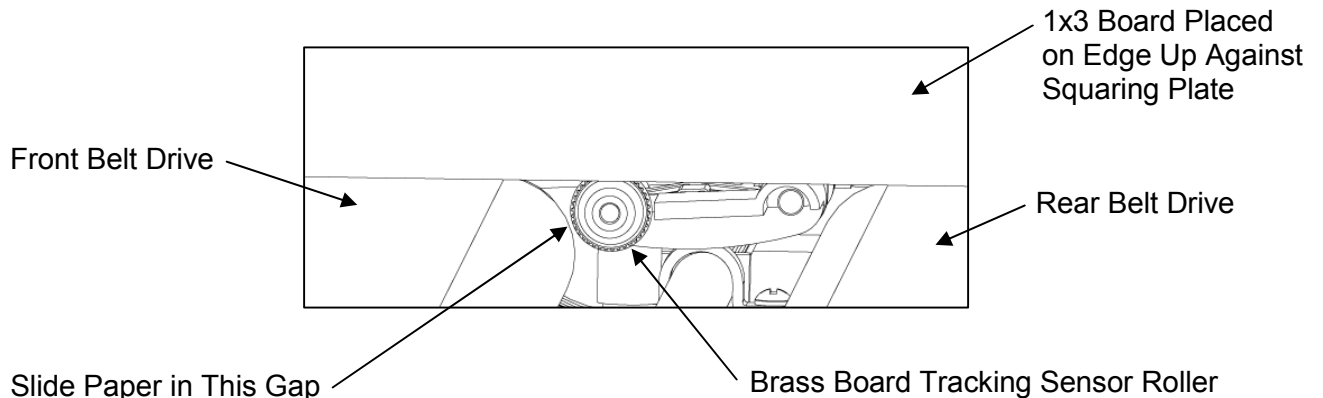

FIGURE 18: CHECKING CLEARANCE OF THE BOARD TRACKING SENSOR
30. **Check for clearance between the board tracking roller and the new rubber belt.** The new rubber belts are slightly thicker than the previous sandpaper belts. For this reason you added the spacing washers. Additionally you will need to check to see that there is clearance between the new rubber belt and the brass board tracking roller when it is compressed by a board. Crank the head up to within 1" of the top for best viewing. Take a single sheet of paper and slide it between the brass roller and the front rubber belt (Figure 18). Place the 1x3 board on edge up against the squaring plate. Make sure that the board does not pinch the paper between the belt and the board. Press the board down so that it is compressed onto the belts as usual. Withdraw the sheet of paper and see if it is pinched between the roller and belt. If the paper is pinched please contact CarveWright Service for assistance.